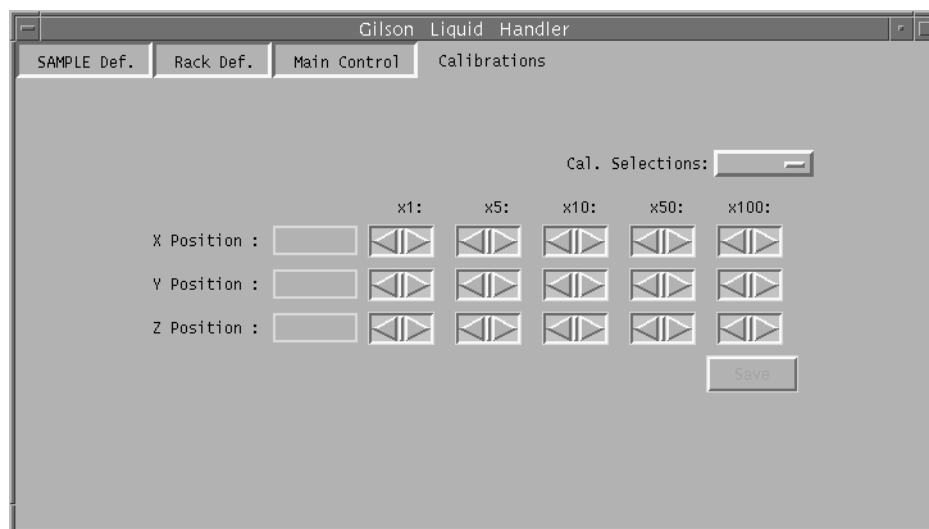

Figure 105. Calibrations Window
- **Calibrations** (shown in Figure 105) – For calibrating arm positions.
Use the Calibrations pane (shown in Figure 105) to calibrate the various positions of the Liquid Handler arm and probe (needle). The X, Y, and Z adjustments work in real time, so you must watch the probe move as you make adjustments.